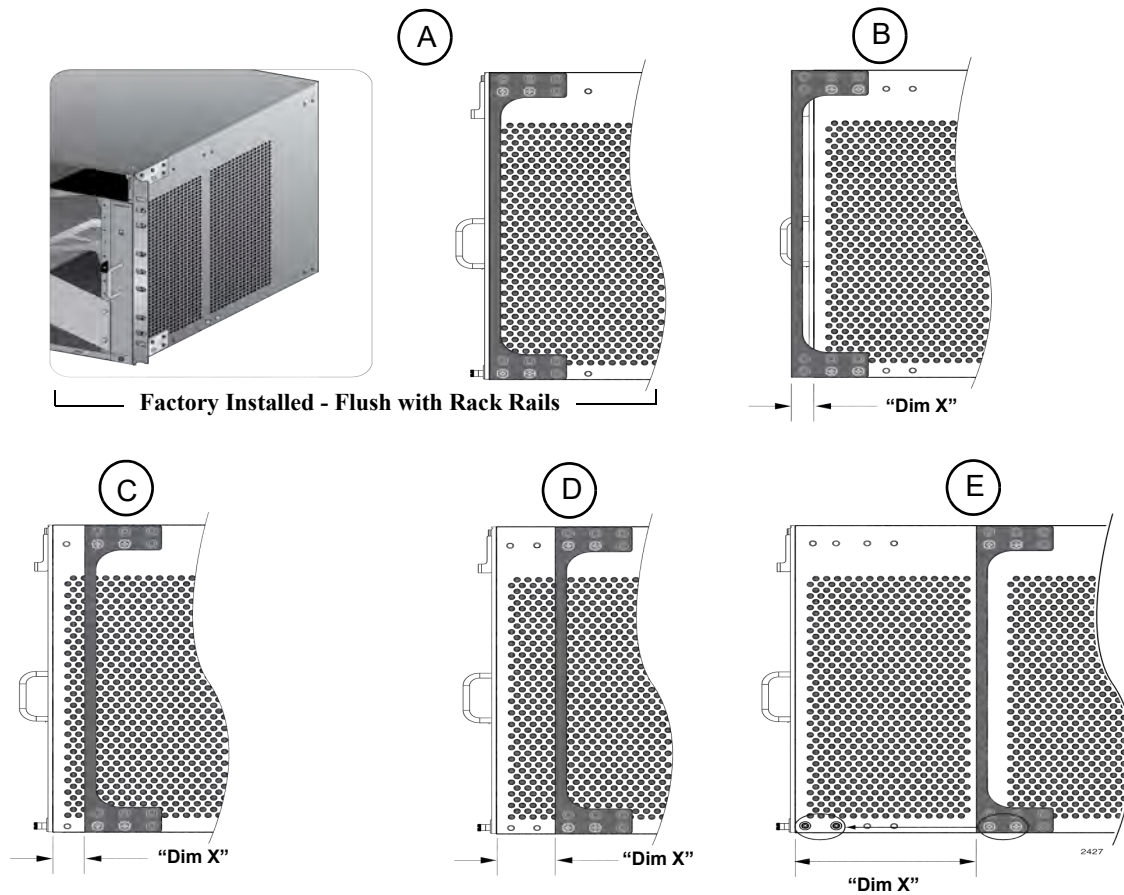
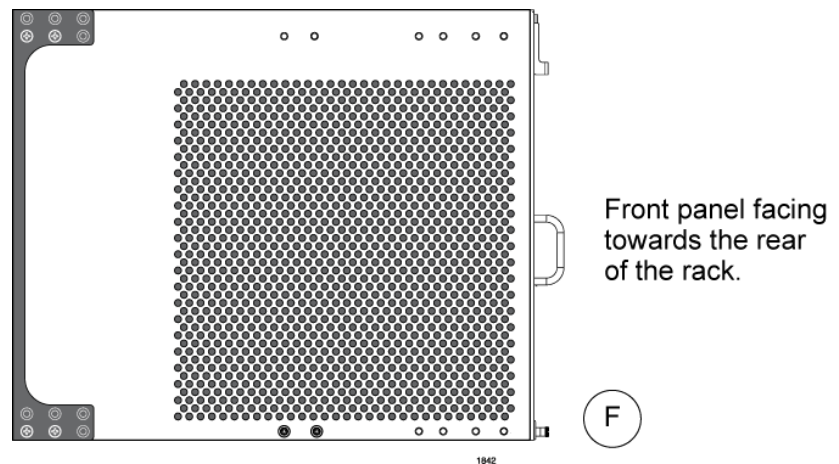

Figure 42. Rack Mounting Bracket Locations
Figure 43. Rack Bracket Locations for Reverse Position of Chassis
You adjust the brackets by removing them and re-installing them in different positions on the sides of the chassis. The different bracket positions are listed in Table 28 and illustrated in Figure 42 on page 117 and Figure 43 on page 117. Please review the following information before moving the brackets:
- ❑ To install the rack mount brackets in position “E,” you have to remove the two chassis screws from the bottom-middle section of the chassis and re-install them in front where the rack mount bracket screws were originally, as shown in Figure 42 on page 117.
- ❑ The dimension (X) between the front panel and the rack rails is given for each rack mounting bracket position in Table 28.